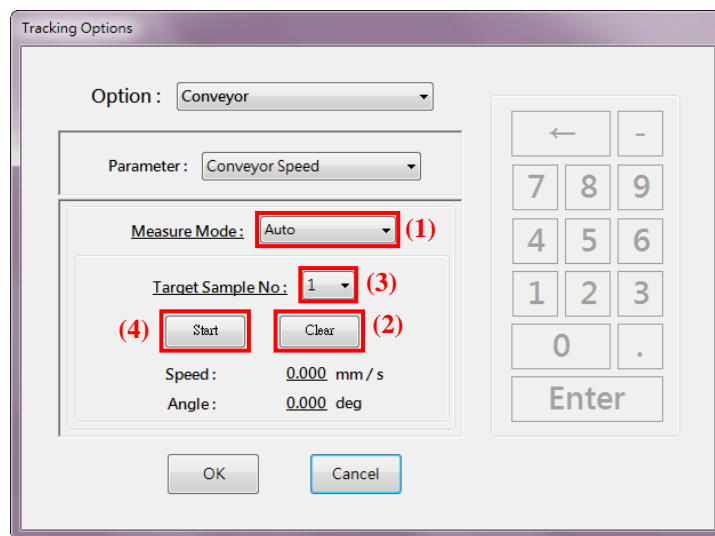
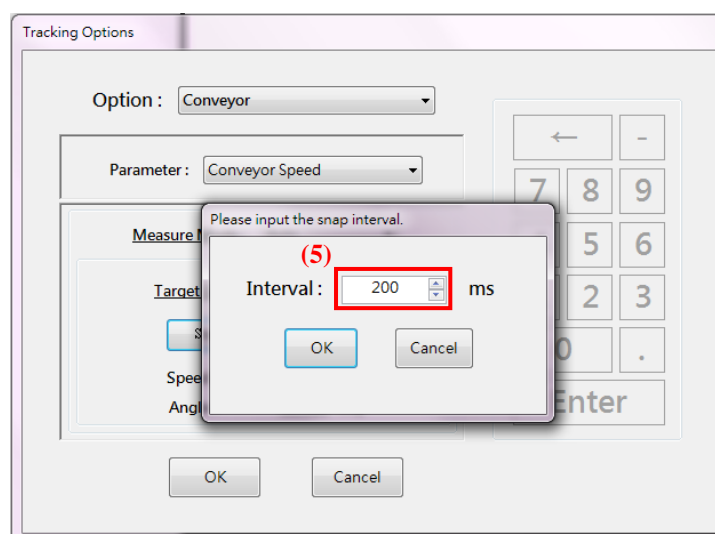
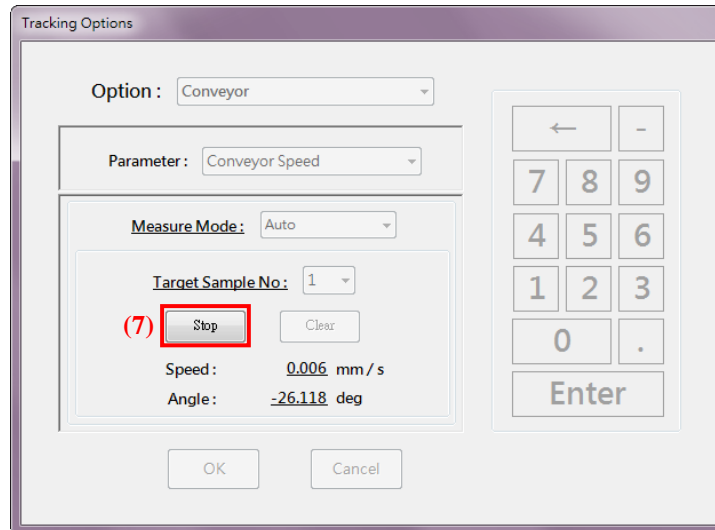

Figure 8-16 Conveyor speed automatic setting mode
Figure 8-17 Input image capture interval
Figure 8-18 Press the "Stop" button to end the measurement
- (1). As shown in Figure 8-16, select the "Auto" option.
- (2). Press the "Clear" button to clear the previous measurement settings.
- (3). Select the number of the trained sample as the measurement target.
- (4). Press the "Start" button.
- (5). As shown in Figure 8-17, enter the image capture interval in the "Interval" text box and press the "OK" button to start the measurement.
- (6). Place the object corresponding to the selected sample number on the running conveyor belt.
- (7). As shown in Figure 8-18, press the "Stop" button to end the measurement.